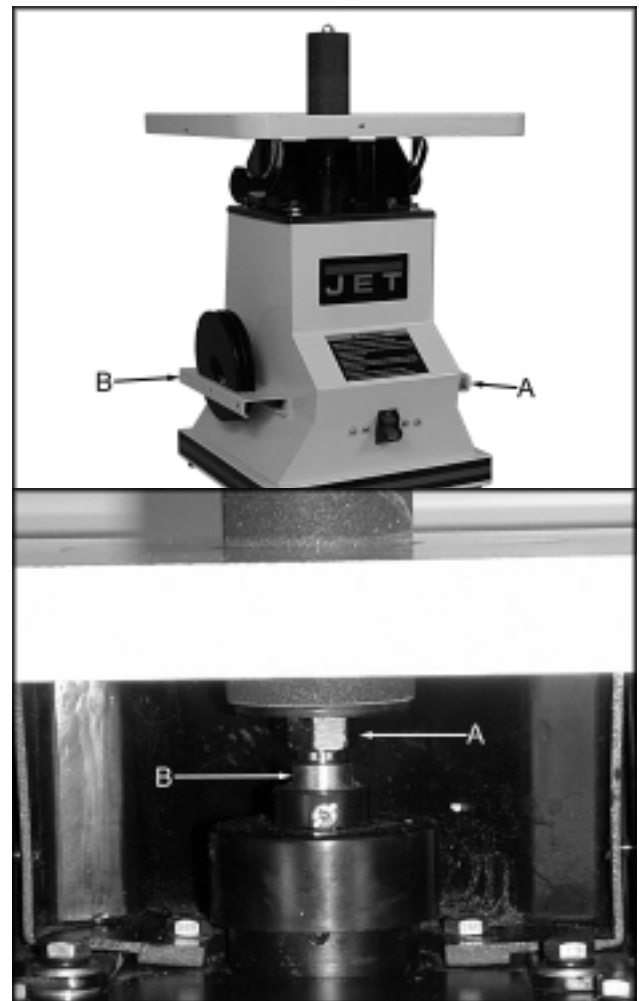

Fig. 2
3. Using the provided wrenches, tighten the spindle nut (A, Fig. 2) counter-clockwise while holding the spindle housing flat (B, Fig. 2) with the other wrench.